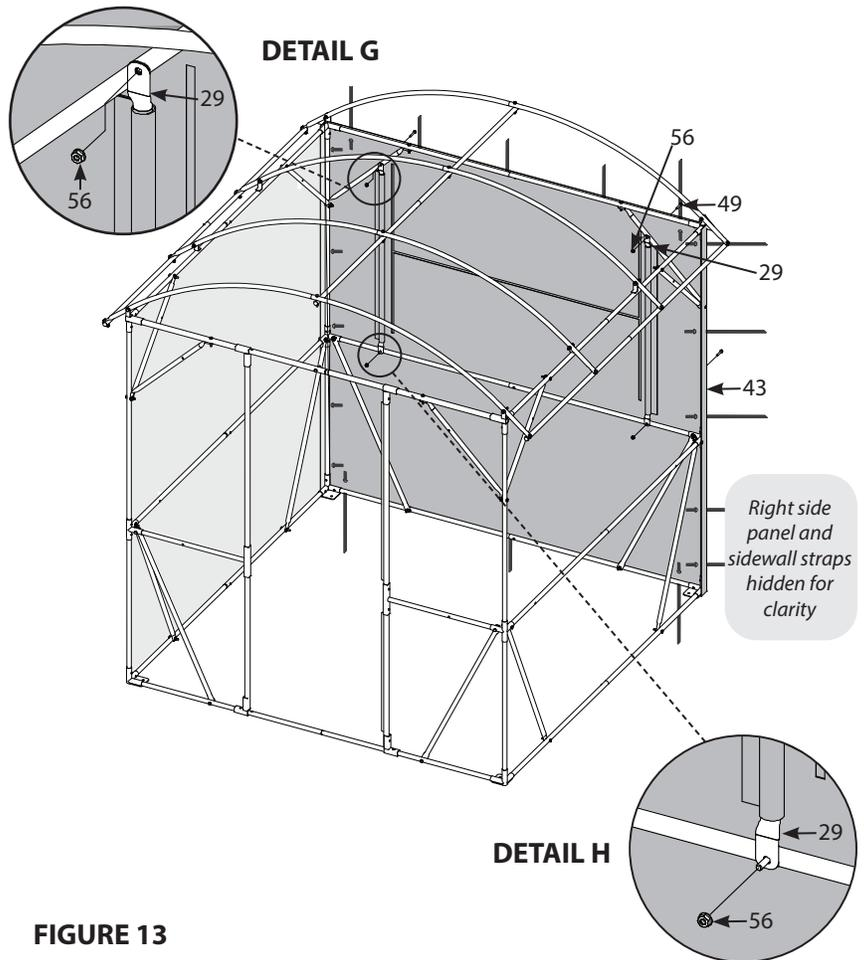

FIGURE 13
Attach the back wall panel (43) to the blind frame by first hanging the panels from the top tier of the frame using the two D-ring straps and hook and loop straps along the top edge of the panel. Wrap the straps around the frame and secure. **DO NOT FULLY TIGHTEN D-RING STRAPS AT THIS TIME. SEE FIGURE 13.**
Next, bolt the (29) window poles to the blind frame using two 1/4-20 X 1-1/2 IN bolts (49) and 1/4-20 nuts (56) for each pole. Pay attention to the orientation of the poles. **SEE FIGURE 13 and DETAILS G and H.** Pay attention to the orientation of the bolts! The head of the bolt must be on the outside of the frame. This helps prevent wear on the skin when fully assembled.
Finish attaching the back wall panel (43) by wrapping all the D-ring straps around the frame and secure. **DO NOT FULLY TIGHTEN D-RING STRAPS AT THIS TIME. START AT THE TOP AND WORK YOUR WAY TO THE BOTTOM. SEE FIGURE 13.**